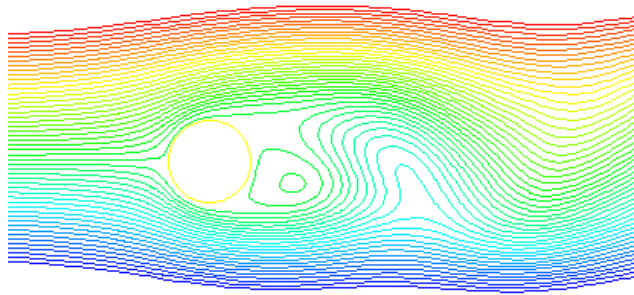

Figure 5.10.6: Magnified Contours of Stream-function at $t=2800$ s
- C. For **Time Step**, select 420 and click **Apply** to update the graphics display (Figure 5.10.6).